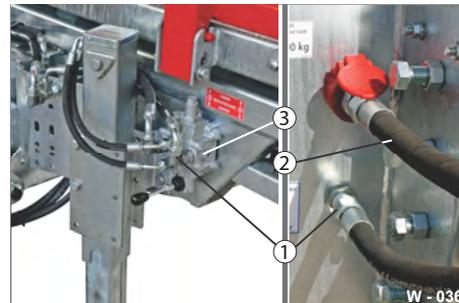

Fig. 36 Checking of connections
- ▶ Check all hydraulic connection points (Fig. 36/1) for leaks (oil loss) and tight fit.
- ▶ Replace defective hydraulic components, e.g. distributor/control (Fig. 36/2) immediately.
- ▶ Check the hoses (Fig. 36/3) for crack formations/deformation.